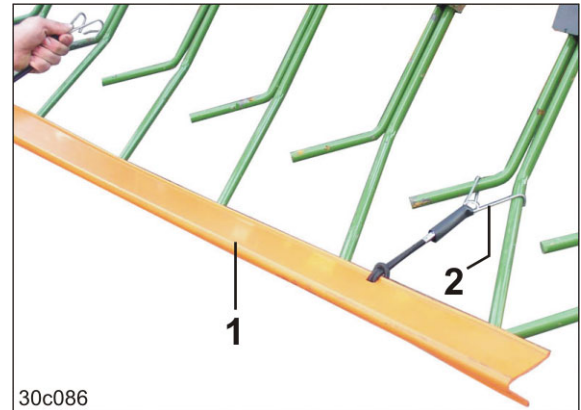

Fig. 178
1. Release the spring holders (Fig. 178/2) and remove the road safety bar (Fig. 178/1).